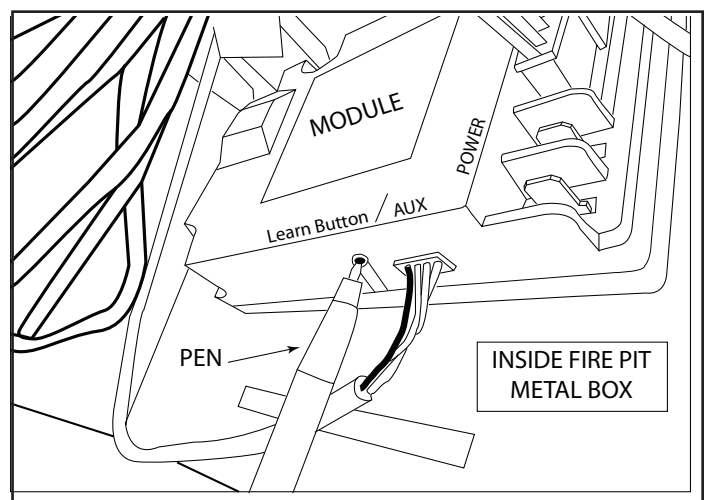

Fig. 26 Learn button location.
3. Once the Learn button is located, press and release the button once. You will hear a beep indicating that the module is ready to receive a transmitter code (See Fig. 26)